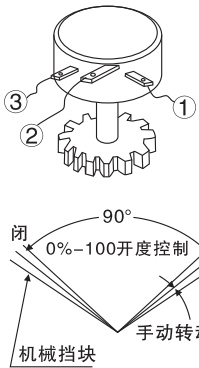

图16
9.3 电位器的调整 (图16) Adjustment of potentiometer